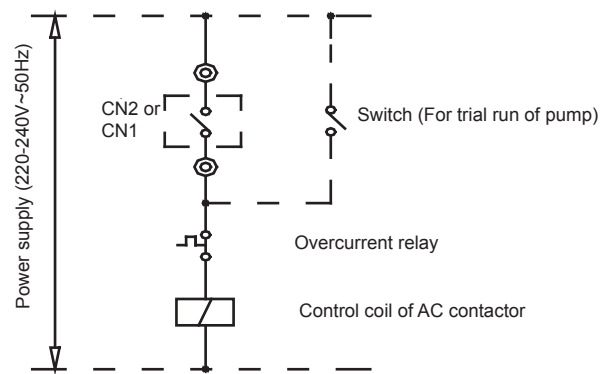

Fig.5-3
- Step 10. Connection of control wires of pump: the control wires of AC contactor of pump must pass the connection terminals CN1 or CN2 of the main unit, as shown in Fig. 5-3.